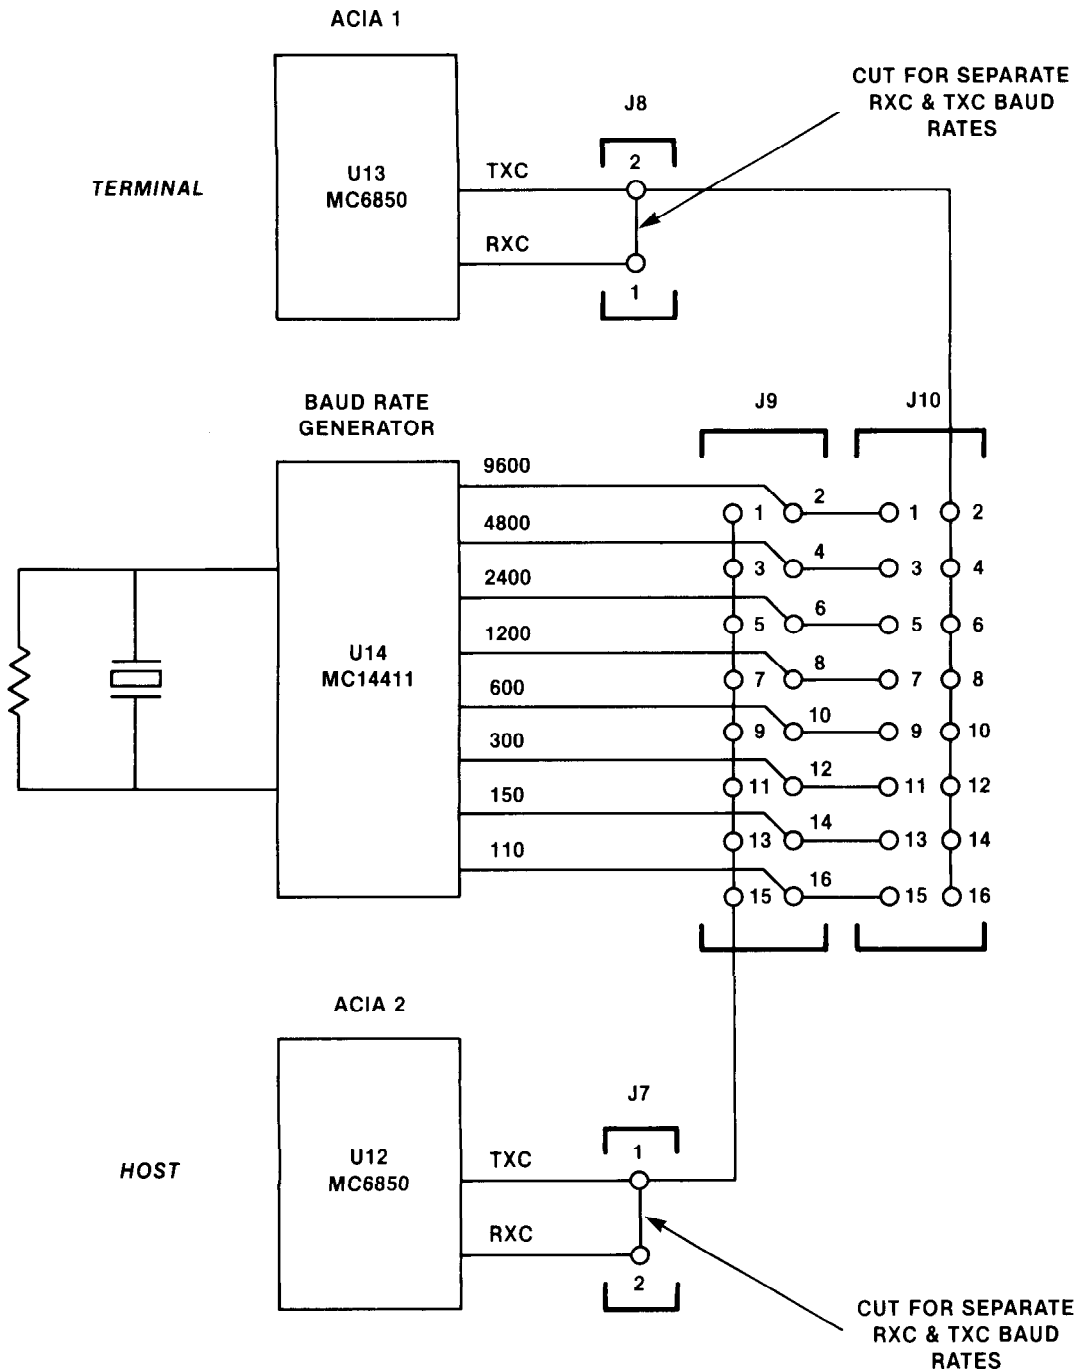

FIGURE 2-4. Interconnection Diagram for Baud Rate Selection
2.2.4.1 Normal Operation - Transmitting and Receiving at the Same Baud Rate. Normally, the terminal transmits and receives at the same baud rate. Although the terminal Port 1 can be configured to transmit and receive at different rates, the board as supplied uses a single common baud rate for the port. The host interface Port 2 has similar attributes. The interconnection circuit is shown in Figure 2-4.
2.2.4.2 Special Operation - Transmitting and Receiving at Different Baud Rates. The MEX68KECB is wired with the transmit clock (TXC) and Receive clock (RXC) of each ACIA (refer to Figure 2-4) tied together and then jumpered to the selected baud rate. To provide different baud rates, the connection between TXC and RXC must be cut and individual baud rates connected to each. Perform the following steps to select separate transmit and receive baud rates for the terminal: